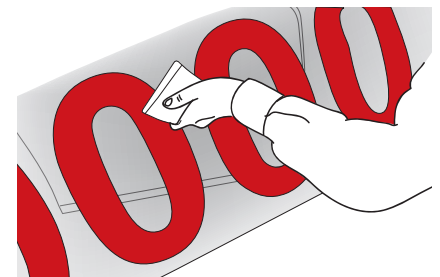

Figure 05
- › Start applying the film, only to flat surfaces, using a soft squeegee (like MARBLEU), previously covered with felt (FIG. 05). The squeegee forms an angle at around 45 degrees with the substrate and the application has to be carried out from the centre towards the borders of the graphics, firmly pressing on the edges.